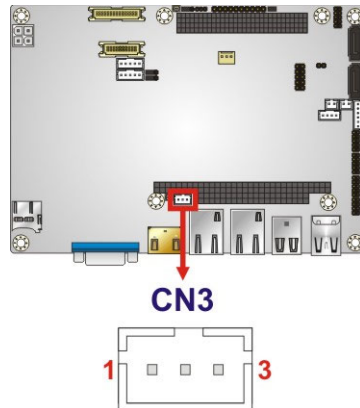

Figure 3-15: PC/104-Plus Power Input Connector Pinouts
- CN Location:** See **Figure 3-15**